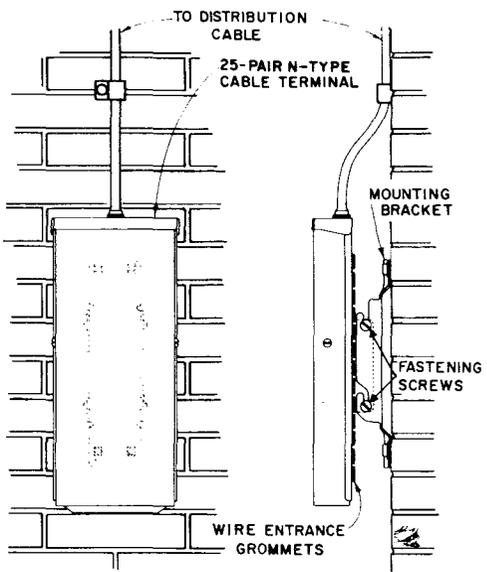

Fig. 21—Installing Terminal on Mounting Bracket
3.06 Place the terminal on poles as shown in Fig. 13. Figures 21 and 22 show the placement of wall-mounted 25-pair terminals.